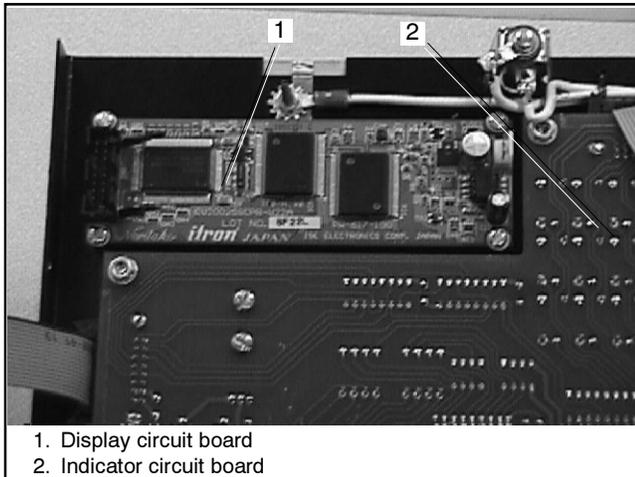

Figure 3 Display Circuit Board (340 Controller)
- 3.4 Position the new display circuit board with the ribbon cable socket located toward the outside edge of the front panel. See Figure 3.